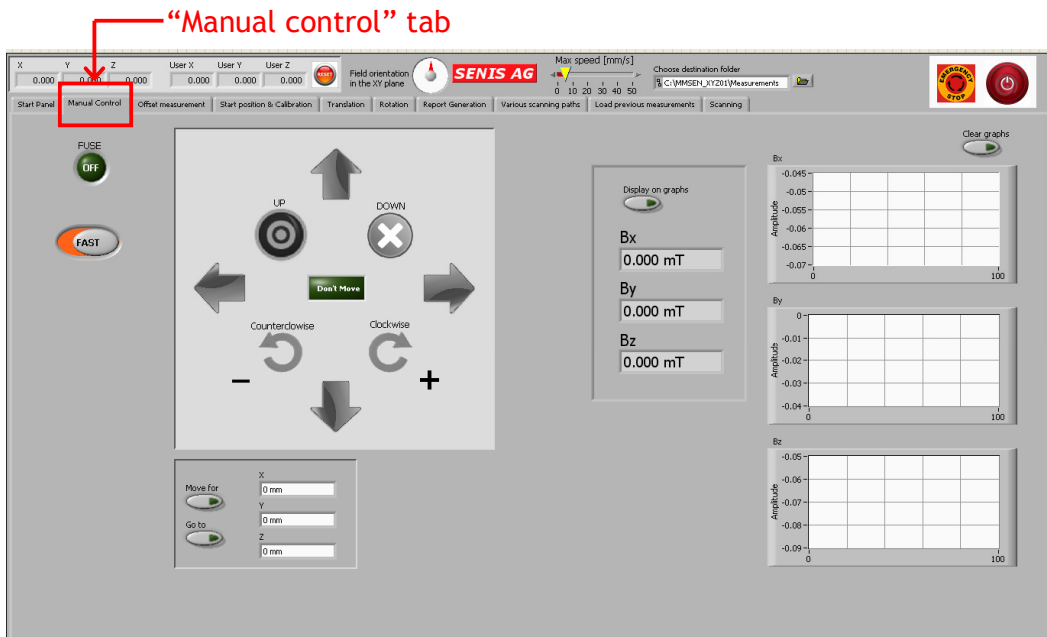

Figure 24: Selecting the “Manual Control” tab
14) Select the “Manual Control” tab (Figure 24);